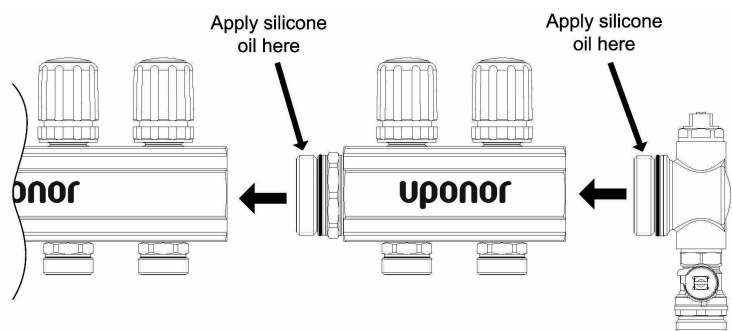

Figure 2
2. Apply the Uponor Silicone Oil (included in the kit) on the union thread over the factory-applied Teflon thread sealer. (See **Figure 2**.)